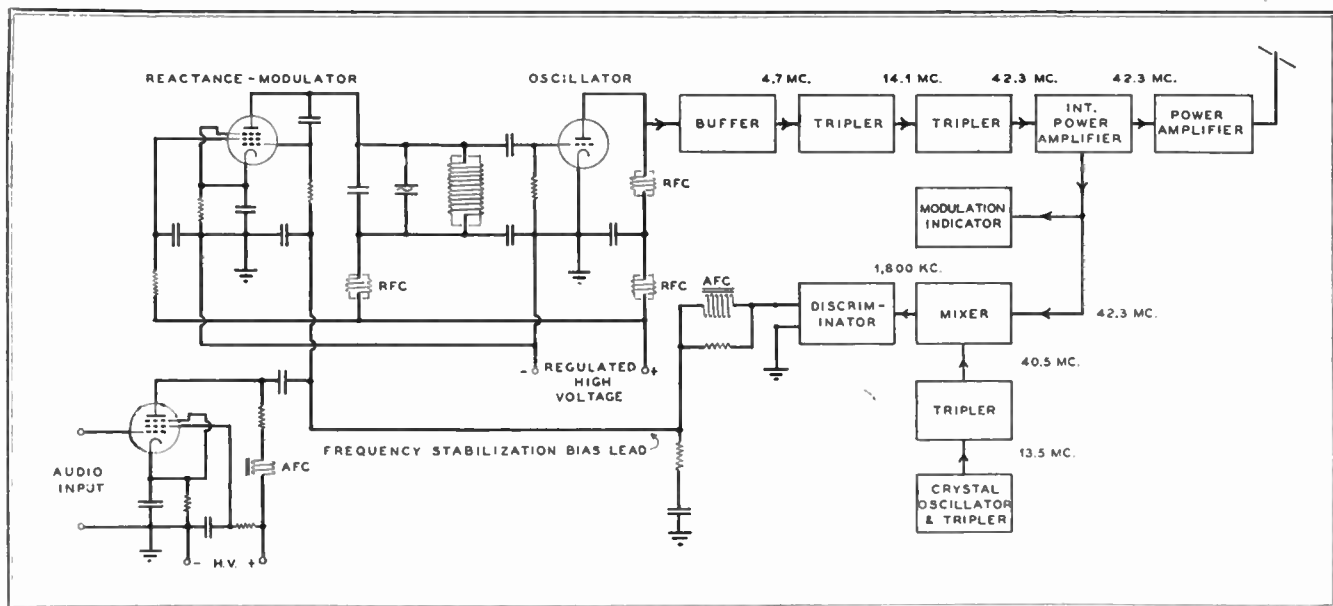

FIG. 36 FM BROADCAST TRANSMITTER EMPLOYING BIAS-CONTROL METHOD OF MINIMIZING FREQUENCY DRIFT
**The Crosby System** ★ The circuit diagram of a transmitter employing the frequency stabilization circuit developed by Murray G. Crosby is shown in Fig. 36. The oscillator in this particular case operates at
one-ninth of the assigned transmitting frequency. In the circuit of Fig. 36 the 4.7-mc. oscillator frequency is passed through two tripler stages to produce a frequency of 42.3 mc. The oscillator is frequency-modulated by the reactance tube, a frequency deviation of 75/9 or 8.33 kc. being required at the oscillator for full modulation of the transmitter.
The stability of the carrier frequency in the circuit of Fig. 36 depends on: 1) the stability of the reference crystal oscillator; 2) the gain of the mixer tube, and 3) the stability of the tuned circuits of the discriminator. Also, the frequency stabilization circuit does not remove all the drift of the output frequency, although the drift can be reduced by as much as 100 to 1 as